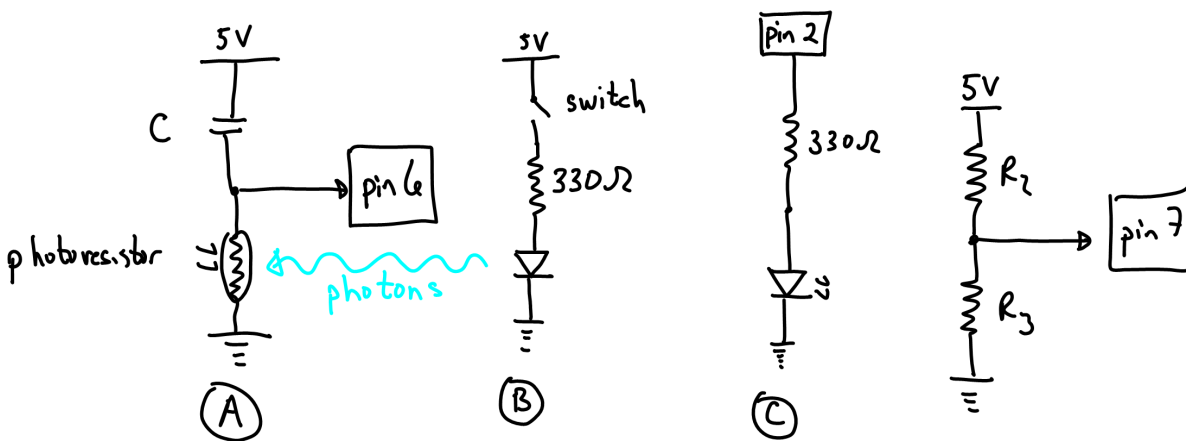

Figure 5: Circuit for precision timing using the ATmega328's internal comparator. It is much easier than the external comparator above.
1. Build the circuit in Figure 5. The resistors in the voltage divider on pin 7, the inverting terminal of the comparator, should be sized to create as close to 1.84V as reasonable. (Why did I choose 1.84V?) A good rule-of-thumb is to make the series resistance somewhere between  $10k\Omega - 50k\Omega$ .